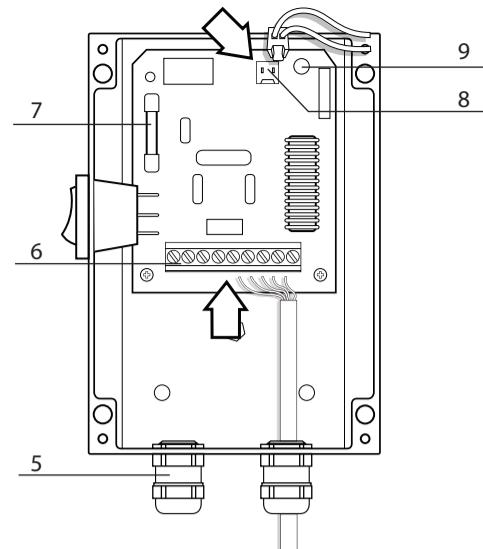
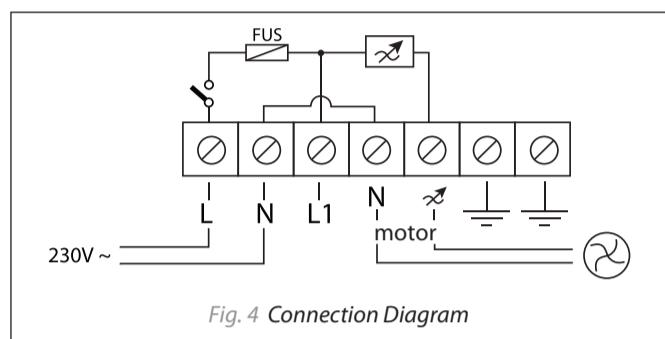

Fig.3
Fig.4 Connection Diagram
- To facilitate installation unplug connector 8 (see Fig. 3);
- Complete the electrical connections according to the wiring diagram (see Fig.4). The external wires are connected to the device by means of bolt-and-nut terminals 6 (see Fig.3). The cables are routed into the unit through sealed lead-ins 4 (see Fig.3). The external lead-in (220V/50Hz) must be equipped with an automatic switch built into the stationary wiring.
- Plug in connector 8 and set speed selector handle 2 (see Fig.1) to the minimum value (counter-clockwise). Then use potentiometer 9 (see Fig. 3) to set the minimum fan speed as required.